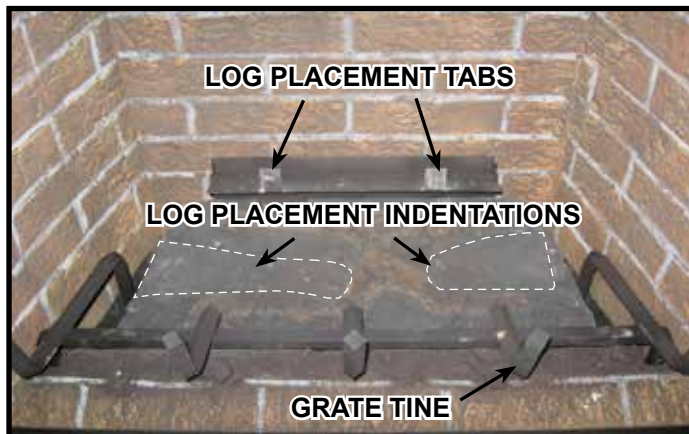

Figure 2. Log Placement Tabs
**CAUTION:** Logs are fragile, handle with care. **Log #1 (SRV2164-701):** Locate log placement tabs on the pilot cover. Bend tabs upward as shown in Figure 2. Locate the log placements slots on the bottom of Log #1 (see Figure 3). Mate the slots located on the bottom of Log #1 with the log placement tabs on the pilot cover. Log #1 is properly installed when it sits squarely and completely on pilot cover with tabs engaged (see Figure 4).